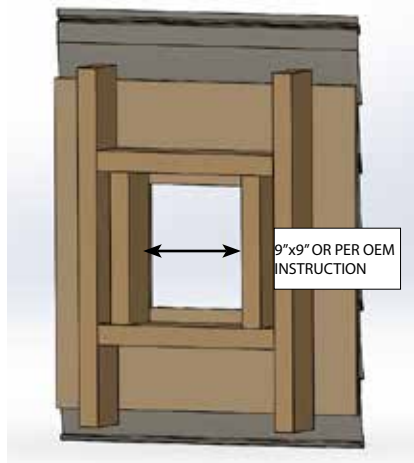

Figure 2- H2 Termination Framing
2. Determine the correct size of the wall penetration. This will be provided by the appliance OEM. Unless otherwise noted, the default dimension is a 9"x9" framed opening (**Fig. 2**).